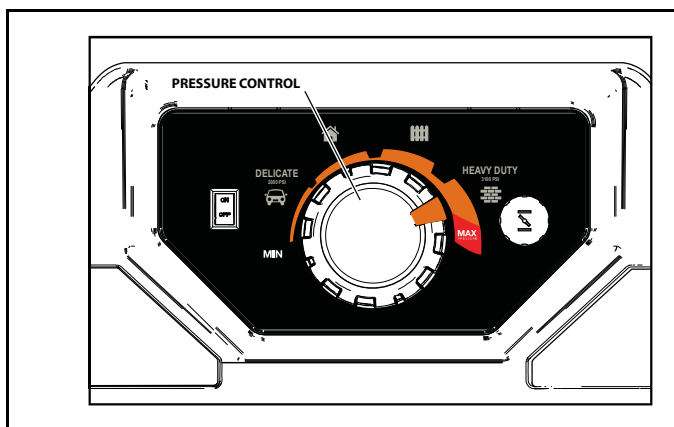

Figure 4-19. Power Dial
2. Turn the Power Dial so that it matches the material you would like to clean (Figure 4-19).